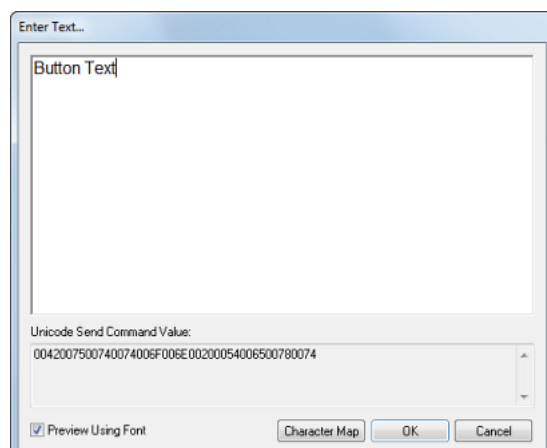

FIG. 354 Enter Text dialog
2. In the *States* tab of the Properties window, click on the **Text** property. Click the browse (...) button to open the *Enter Text* dialog (FIG. 354).